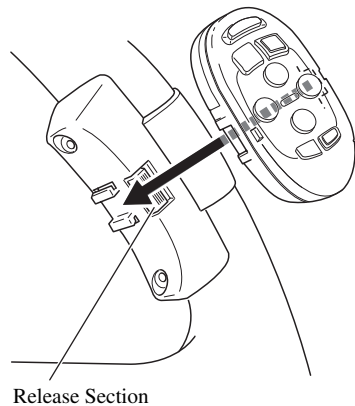

Fig. 10
4. Install the remote control unit in the holder. (Fig. 10)